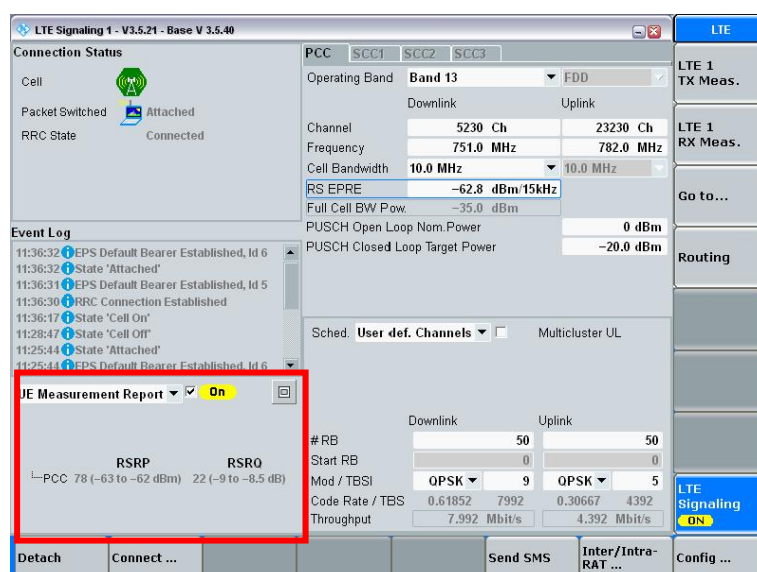

Figure 19: UE Measurement Report
12. View the measured RSRP value by switching the **UE Info** to **UE Measurement Report** (Figure 19).